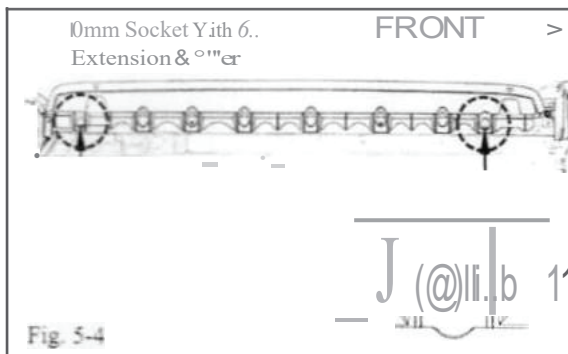

Fig. 5-4
(f) Insert and hand tighten two (2) M6 bolts @ on the bottom facing flange using a 6" extension (Fig. 5-4).
(g) Tighten and torque the bolts to 7 N·m (Fig. 5-4).